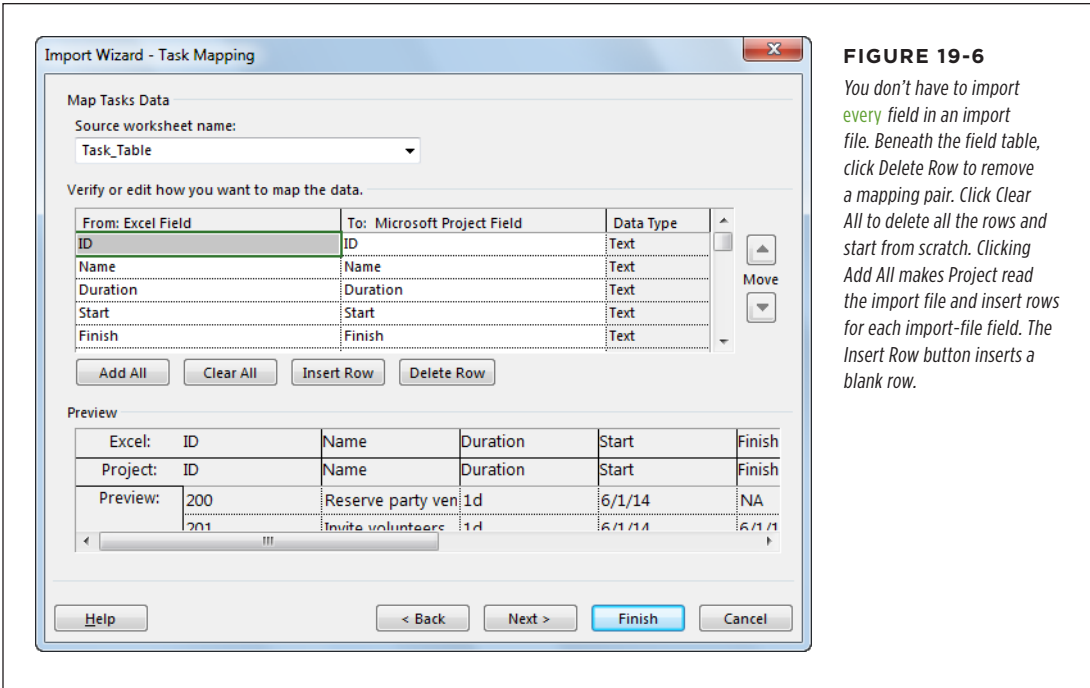

FIGURE 19-6
7. On the Import Wizard’s Mapping screen, map the import fields to their corresponding Project fields, as shown in Figure 19-6.